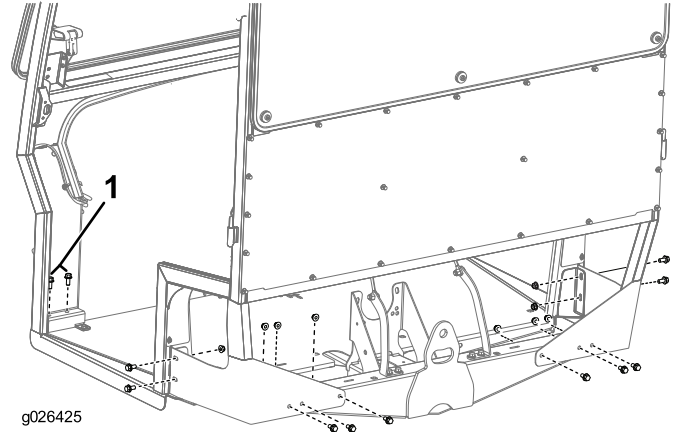

Figure 8
3. Secure the frame to the machine using 10 bolts (3/8 x 3/4 inch), 10 nuts (3/8 inch), and 4 bolts (3/8 x 7/8 inch) as shown in Figure 8.